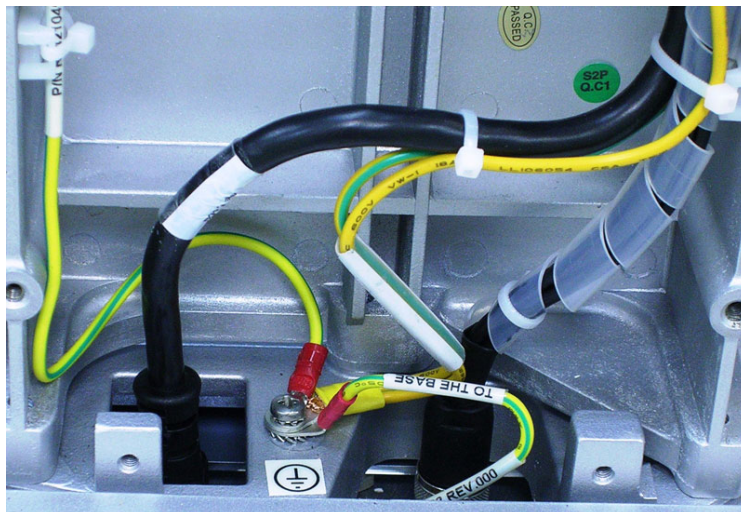

Figure 8-92 Peripheral AC Outlet and Ground Cable Connected
- 8.) Plug the Peripheral AC Outlet cable into the power supply and connect the Ground lead to the body of the cart - Figure 8-92.